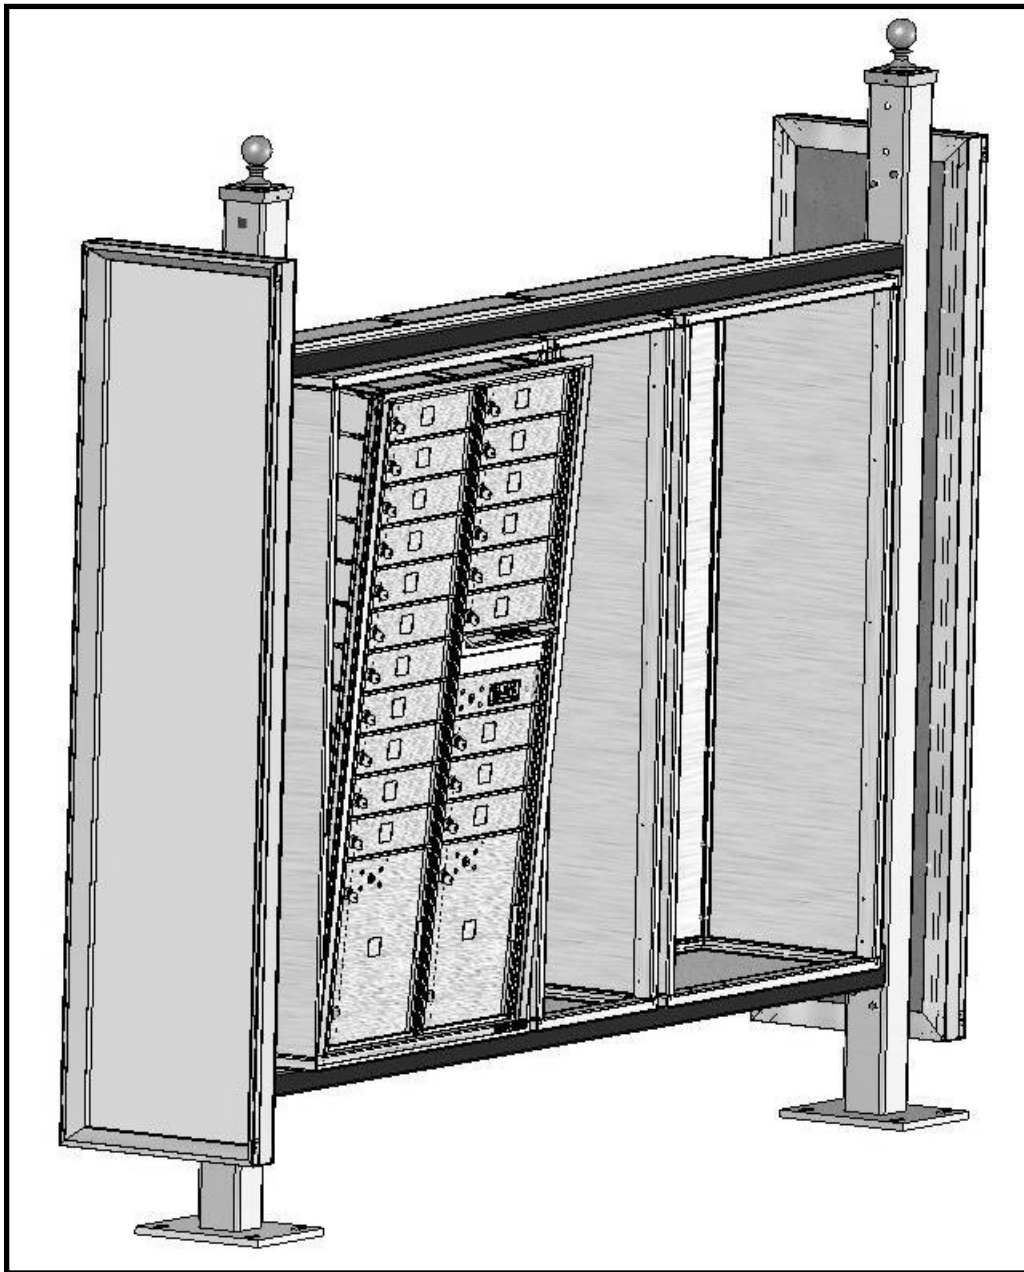

Figure 34 – 4C installation
- a) First, place the bottom of the 4C mailbox into the casing as shown in *Figure 34*.